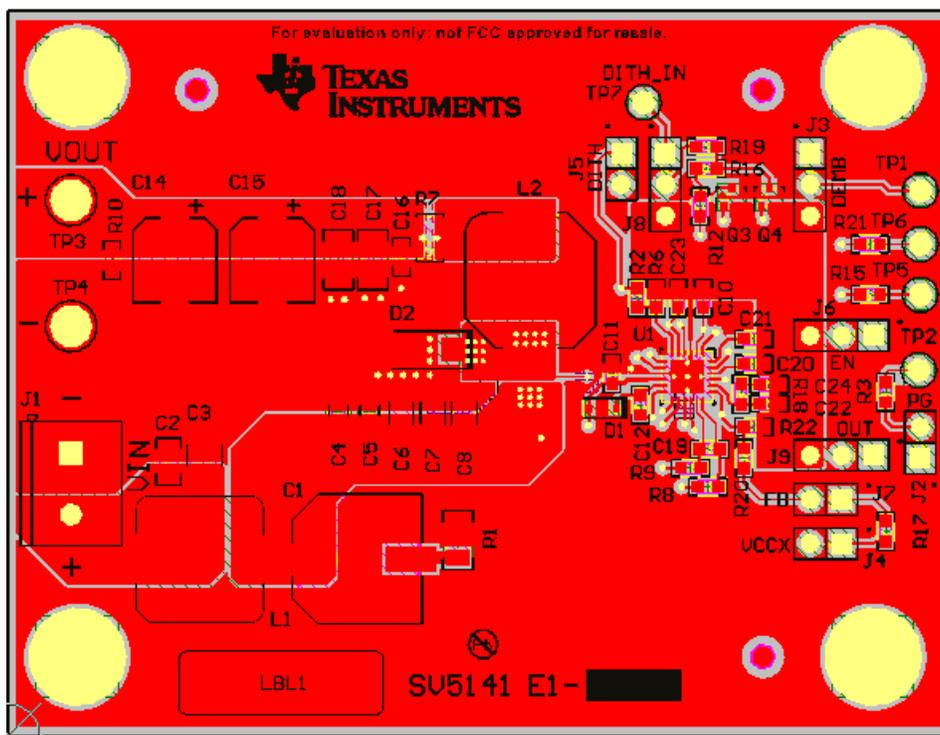
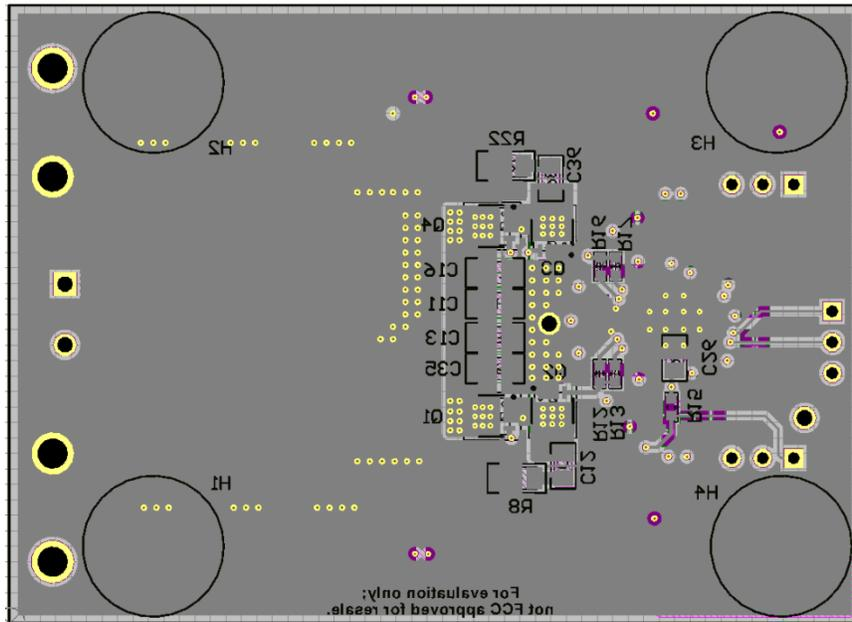

Figure 41. EVM Top Layer
Figure 42. EVM Bottom Layer
- Figure 39 shows the high frequency loops of the synchronous buck converter. The high frequency current flows through Q1 and Q2, through the power ground plane and back to V_{IN} through the ceramic capacitors C6, C7, and C8. This loop must be as small as possible to minimize EMI. Refer to Figure 41 and Figure 42 for the recommended PCB layout.
Figure 41 and Figure 42 show the Top and Bottom layer of the LM5141 EVM.